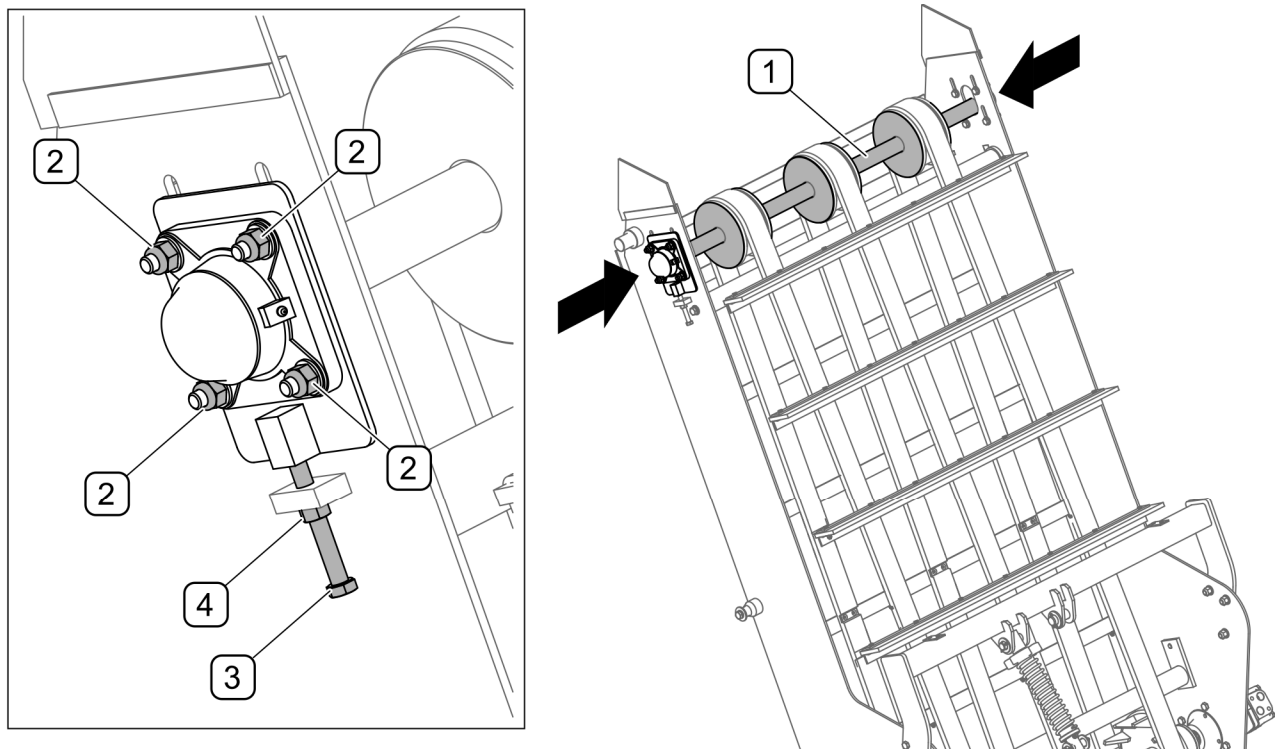

FIG. 5.9 Tightening the elevator belts
(1) - tightening shaft; (2) - shaft bearing nuts; (3) - tensioner bolt; (4) - counter nut
Tightening of belts (FIG. 5.9) is carried out on both sides of the elevator. After loosening of 4 bolts (2) and nut (4), move tightening shaft (1) by means of tensioner bolt (3). Perform this activity on both sides of the elevator. After adjustment, tighten counter nuts (4) and nuts (2) that fix the tightening shaft bearing.